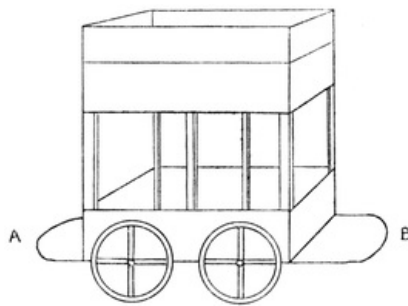

FIG. 99
**A Tram-car** (Fig. 99). For this toy two insides of match-boxes are needed. The children could cut and gum to one box a piece of cardboard A B. Then into this box are gummed six matches of the same length. While these are drying the wheels can be made and the top prepared. The top is a box turned over with a piece of paper gummed round the edge. The paper should be coloured yellow. The projecting paper forms the rail round the top of the car. When the matches are quite firm the inverted box is placed over them.